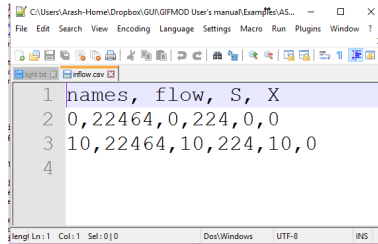

Figure 3: Inflow input file for the activated sludge example
8. **Inflow rate and characteristics:** The inflow characteristics input file looks like figure 3. Create this file or upload it from the example folder and save it in a folder on your hard drive as inflow.csv or any other names you desire.